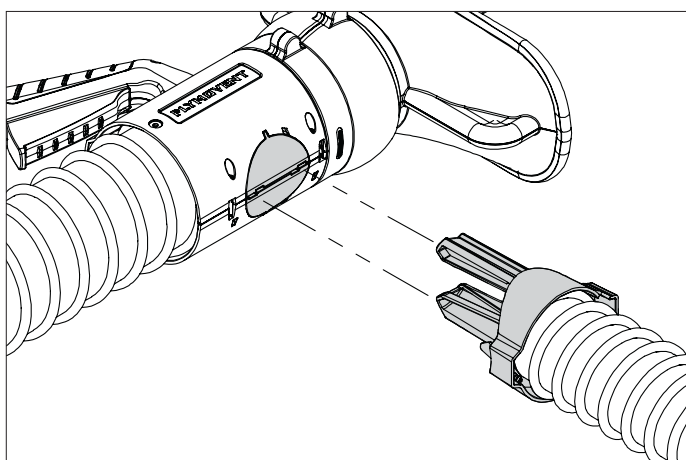

Fig. 4.9 Connecting the coupler to the other Grabber
- Connect the coupler to the other Grabber by inserting it into the butterfly valves on the bottom of the Grabber. Refer to fig. 4.9.